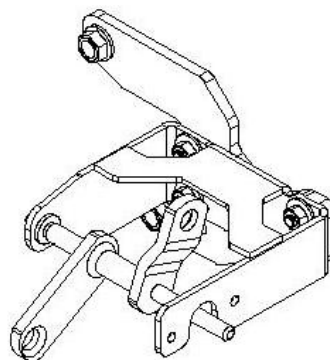

Figure 8
35. Locate transfer case linkage u-bracket, mounting plate, and hardware kit 119 (figure 8)